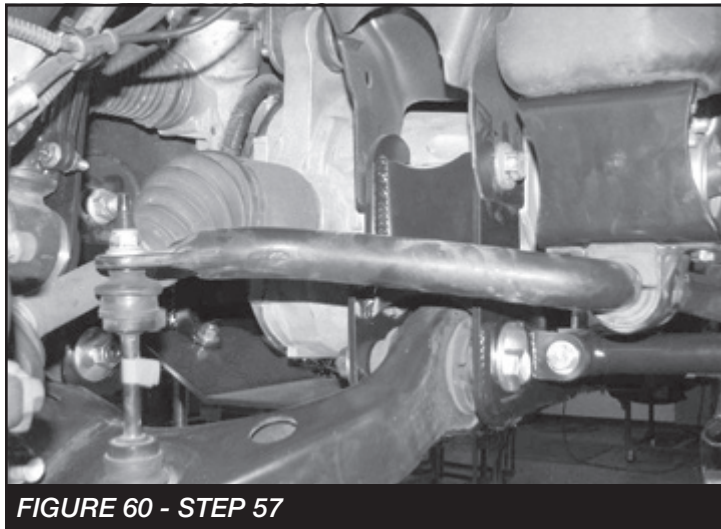

FIGURE 60 - STEP 57
57. Install the sway bar end to the factory lower control arm using the factory end links. **SEE FIGURE 60**